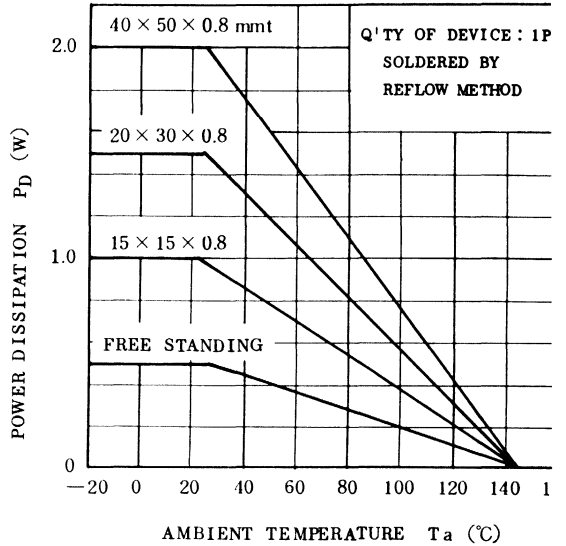

Fig.23  $P_D(max)$  -  $T_a$  characteristic when mounted on aluminium/ceramic substrate
(5) Power dissipation ( $P_{cmax}$ ) of Power Mini IC at free standing application is 500mW. However, when mounted on a substrate, thermal radiation from the fin to the substrate becomes large and power dissipation increases to as large as 1.0W~2.0W and a circuit design equivalent to TO-92MOD (800~900mW) or TO-126 (1.0~1.2W) becomes possible. Fig. 23 shows examples of allowable power dissipation of TA78L05F.